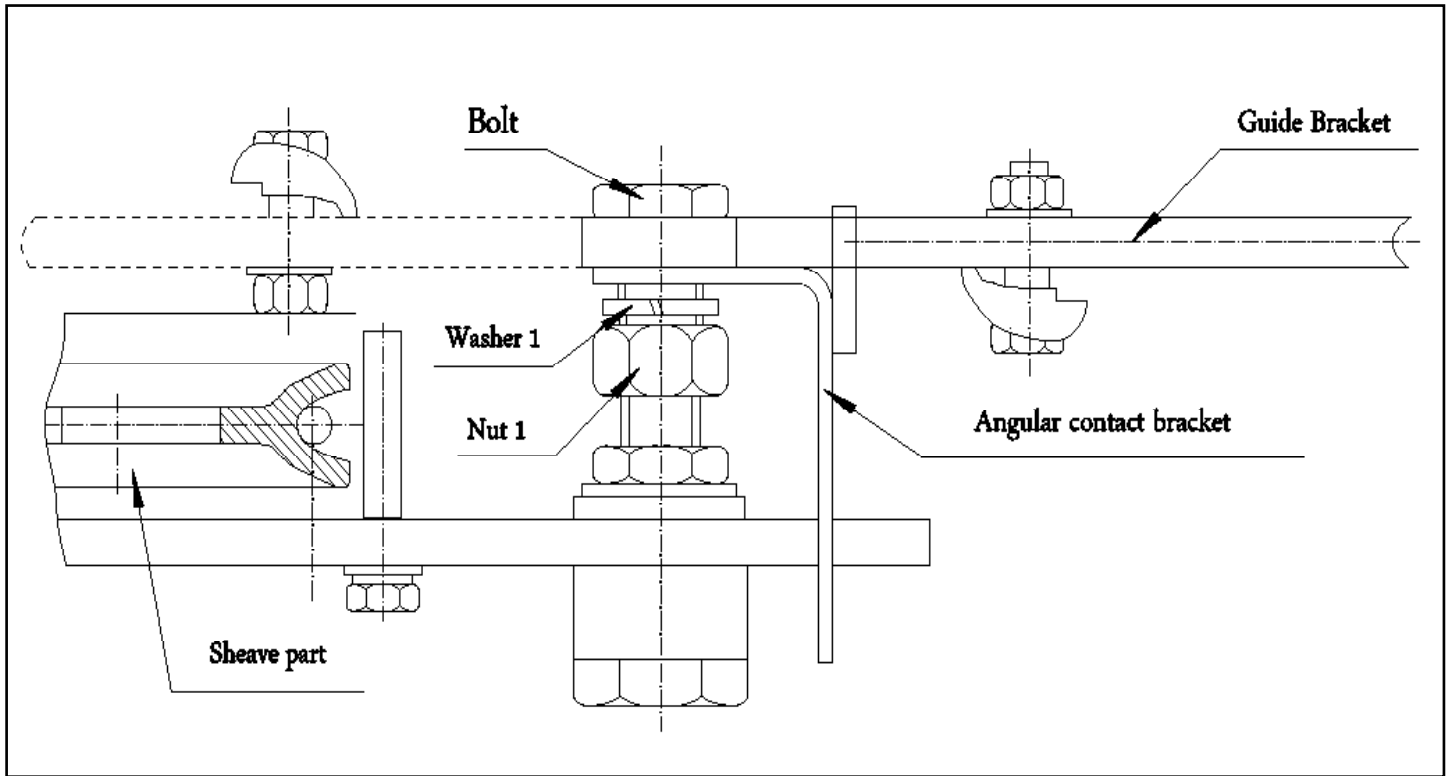

Figure 2
1. Loosen the Nut 1 and back up the nut ~ 16 mm (5/8") to allow the rotation of the guide bracket with 180 ° from initial position (*see figure 2*).